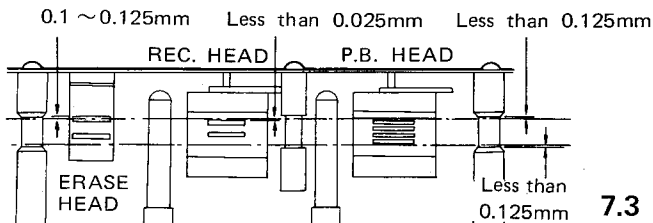

Fig. 15
7.1 COARSE ADJUSTMENTS (Figs. 15, 16)
Adjust screws to proper relation dimension between tape and heads as shown in Fig. 15.